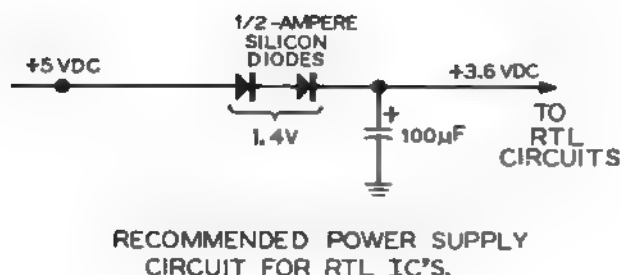
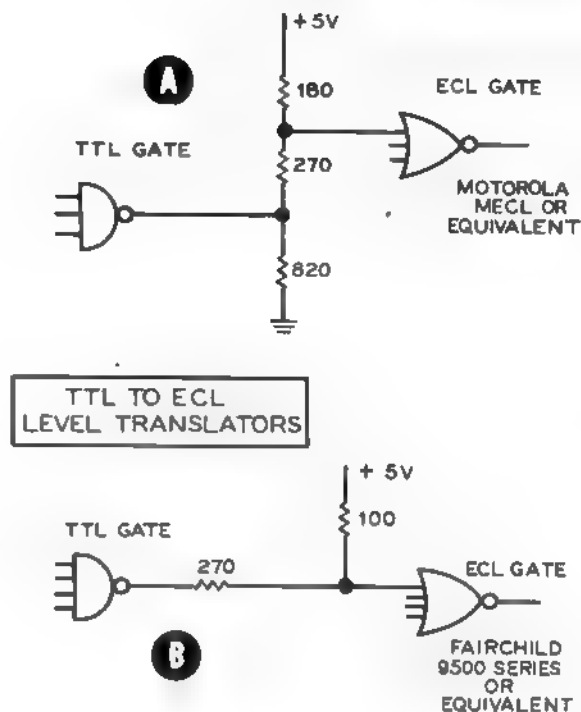

Figure 2
Figure 3
As shown in the following "IC Compatibility Chart," the power supplies and other circuitry of your Digital Experimenter are compatible with most of today's commonly used logic families. Figure 2 (on Page 38) shows how the power supply can be adapted for still another logic family, and Figures 3 and 4 show simple interface (connecting) circuitry between some of these families.
1. Use circuit shown in Figure 2 to derive the recommended supply voltage for RTL IC's.
4. Even with a $+5$ -volt supply on the ECL circuits, this type of IC is not compatible with the switches and indicators on the ET-3200. With some simple circuit additions, you can obtain full compatibility. Figure 3 shows two simple circuits to convert standard TTL levels to ECL levels. The second circuit in Figure 3 can also be used to convert the clock, data switch, and logic switch outputs of the ET-3200 to ECL levels.